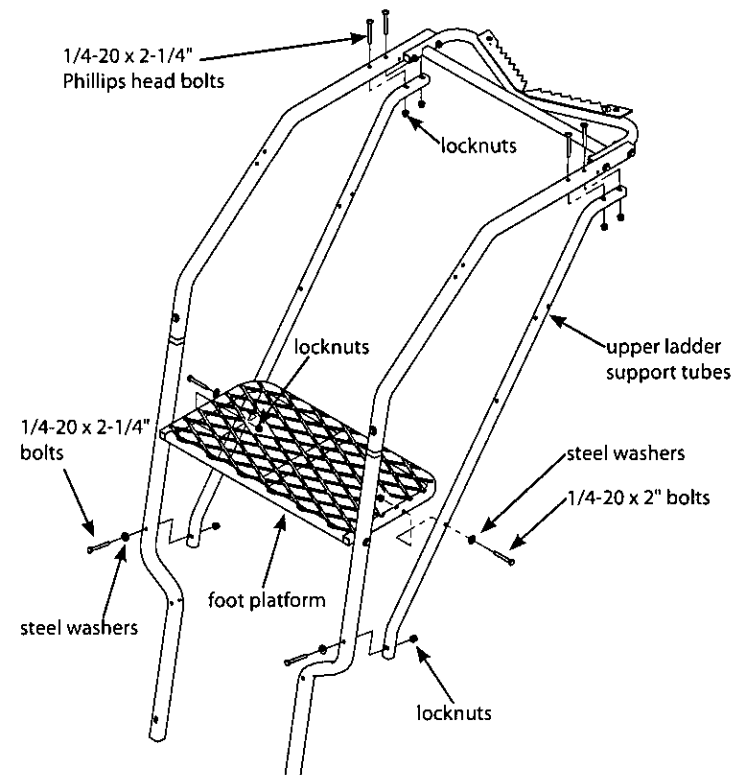

Figure 3
- 4 a. Attach the 2-hole (slot) end of upper ladder support tubes (10336) to the bottom side of main side rails using (4) provided 1/4-20 x 2-1/4" Phillips head bolts and locknuts. **SEE FIGURE 3.**
- b. Attach the 1-hole (slot) end of upper ladder support tubes to the backside of flared rails using (2) provided 1/4-20 x 2-1/4" bolts, washers and locknuts. **SEE FIGURE 3.**
- c. Attach the foot platform to the upper ladder support tubes using (2) provided 1/4-20 x 2" bolts, locknuts and steel washers. **SEE FIGURE 3.**